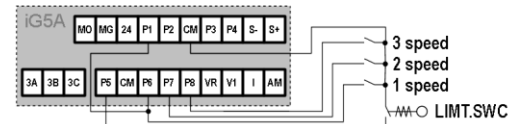

Figure 1
- Wire the I/O terminal of the iG5A inverter according to the **Figure 1**